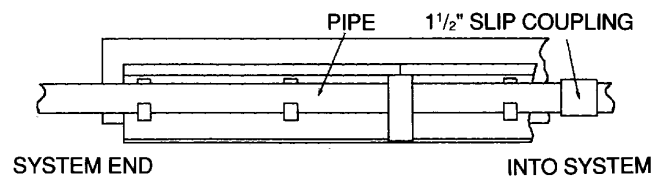

Figure 10
3. Place a 10' section of $1\ 1/2"$ pipe **with the metered holes up** into the pipe hangers at the drain end of the system. Enough pipe should extend beyond the end of the top cover support to later attach a 90° elbow for plumbing installation as in figure 10.